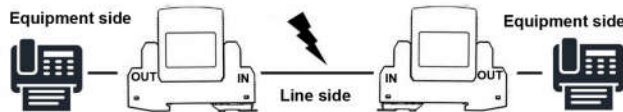

Fig 1: Connection of TSJ series
- It is critical that the line and equipment sides are not interchangeable, and severe damage could occur to the data line device if incorrectly wired. The out (equipment) terminal should be connected to the protected circuit/equipment (please see Fig.1)